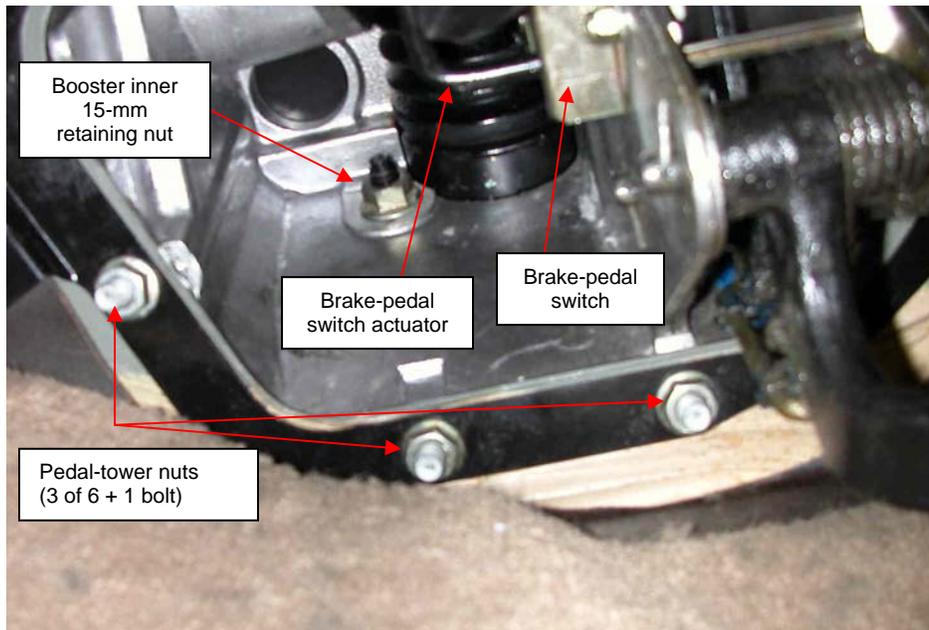

Fig. 5
5. Remove the six 13-mm nuts (three shown in Fig. 5) and one 13-mm bolt (not shown) securing the pedal assembly and steering-column bracket to the body. Removal of the nut near the steering-column bracket requires an open-end wrench. The other nuts and the bolt can be removed with a ratchet/socket/wobbly. Mine were only very-lightly torqued.
20. Remove the two accessible 15-mm nuts securing the brake booster to the pedal assembly, one outside and one inside (see Fig. 5) the tower.
24. Before installing the heater/AC duct, turn the key to the “run” position and verify that the brake lights are not on. For a reason I don’t understand, the brake pedal switch actuator (Fig. 5) on my car no longer pushed the brake switch to the “open” position, even though the booster internal spring pushed the clevis/pedal arm fully rearward. Because of this, (a) the brake lights were always on, (b) there was no interlock to prevent movement of the shift lever out of Park when the brakes were not applied, and (c) the cruise control would not have worked had I tried it. I solved this by sliding a tie-wrap over the switch actuator, tightening it, and snipping off the tail end. This provided sufficient added thickness to the actuator to push the switch to the “open” position.